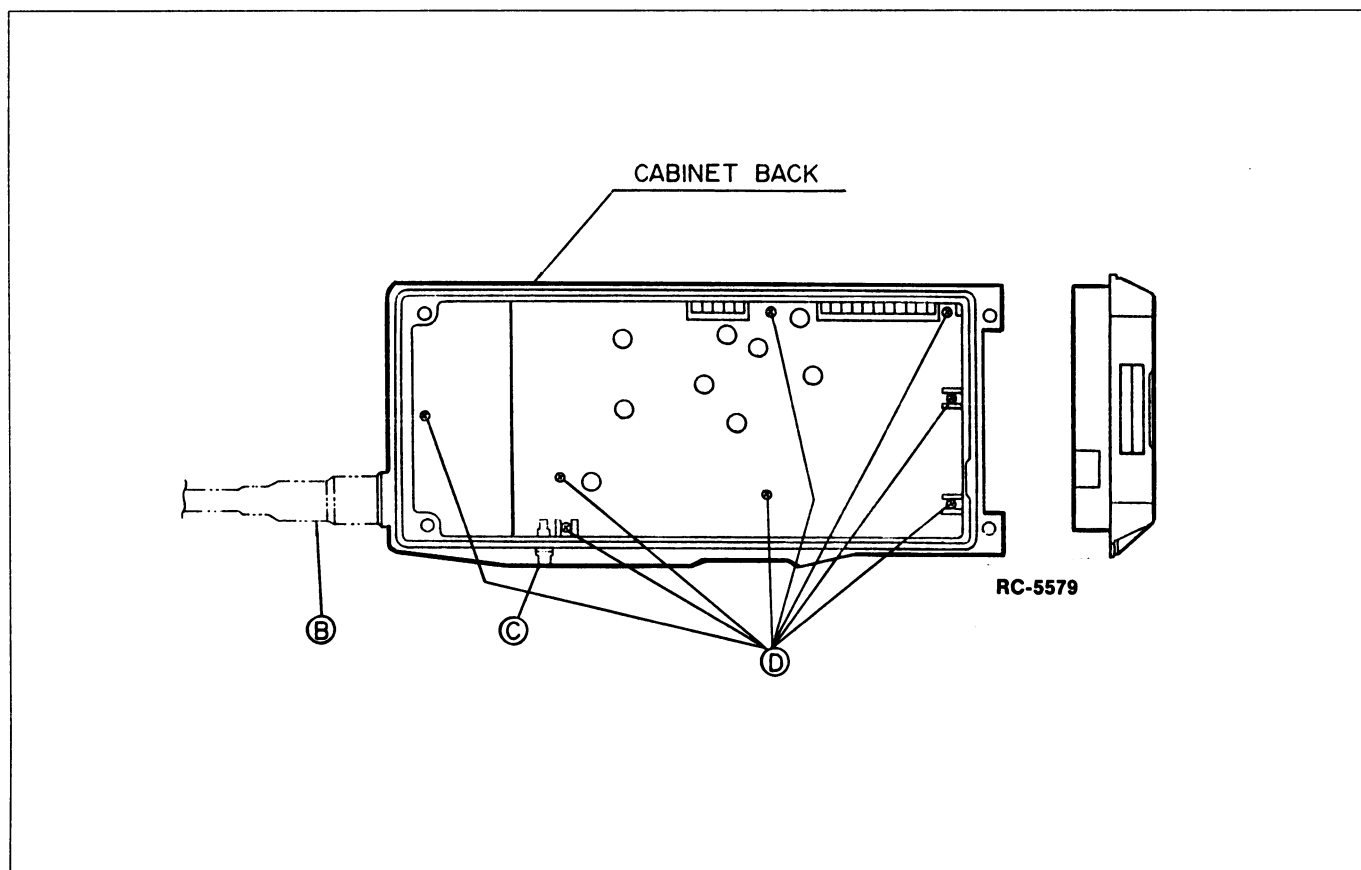

FIGURE 22 - DISASSEMBLY STEP 2
3. To Remove the Radio Board unscrew and remove antenna (B) and UDC RF connector (C). Remove eight (8) screws at (D) using the Phillips head screwdriver. The radio portion can be detached from the rear cover (See Figure 22).